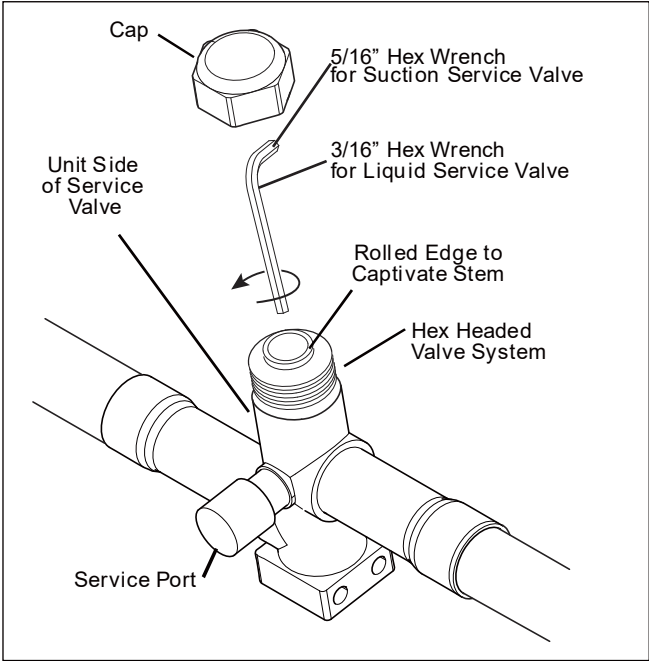

Figure 25
1. Remove service valve cap (Figure 25).